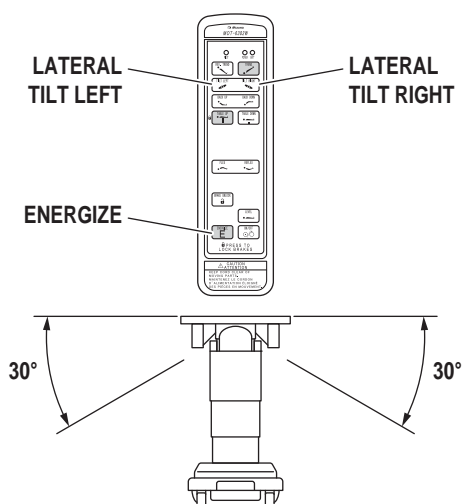

Figure 2-9. Lateral Tilt Positioning
**c. Lateral Tilt** To achieve lateral tilt right (as viewed from the head end of the table), press the ENERGIZE button and then the TILT RIGHT button (figure 2-9). To achieve lateral tilt left, press the ENERGIZE button and then the TILT LEFT button. Tilt of up to 30° may be obtained.